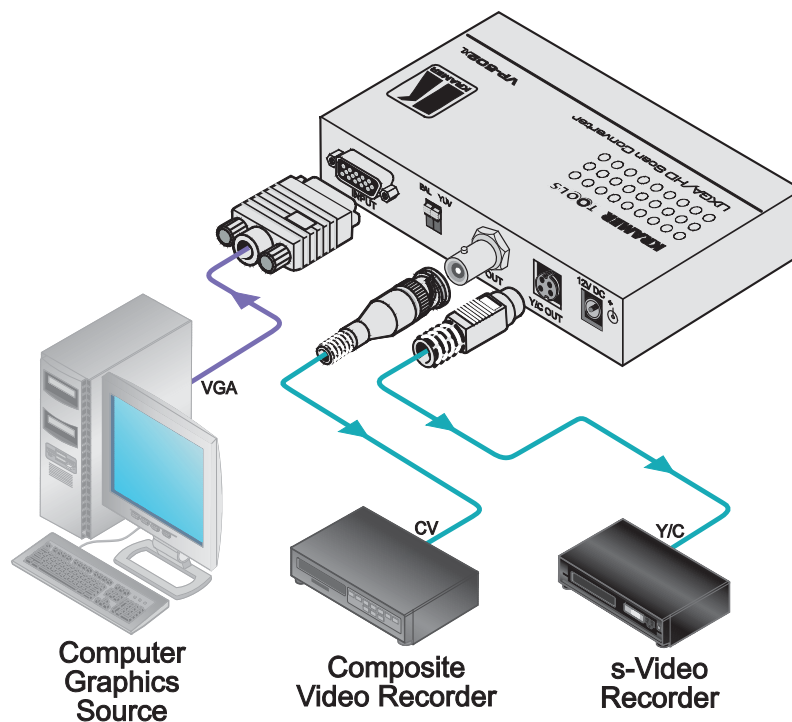
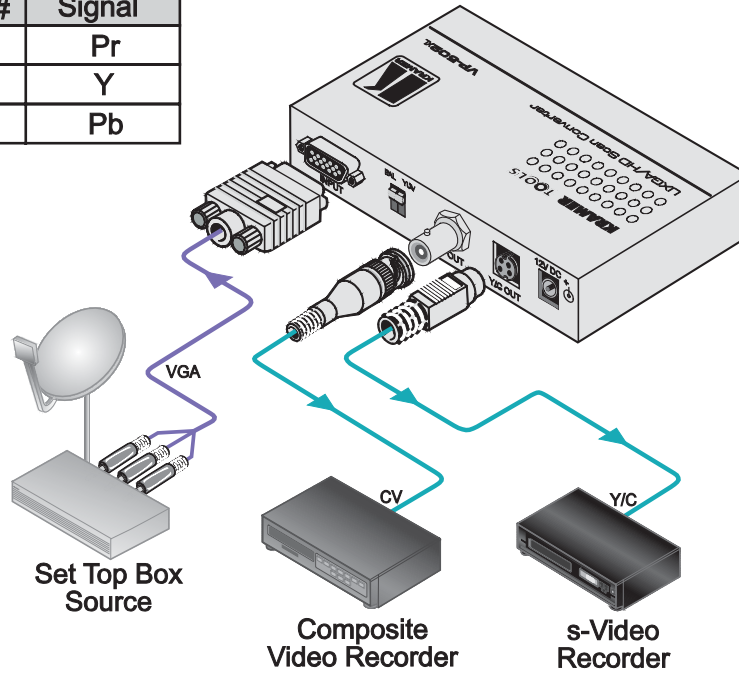

Figure 4: Connecting the VP-502xl
Figure 5: VP-502xl Alternate Connection
To connect your **VP-502xl** as the example in Figure 4 illustrates, do the following¹:
1. Connect a computer graphics source to the 15-pin HD INPUT connector (for example, a PC as shown in Figure 4), or alternatively, connect a high definition source² to the 15-pin HD INPUT connector (for example, a set top box as shown in Figure 5).